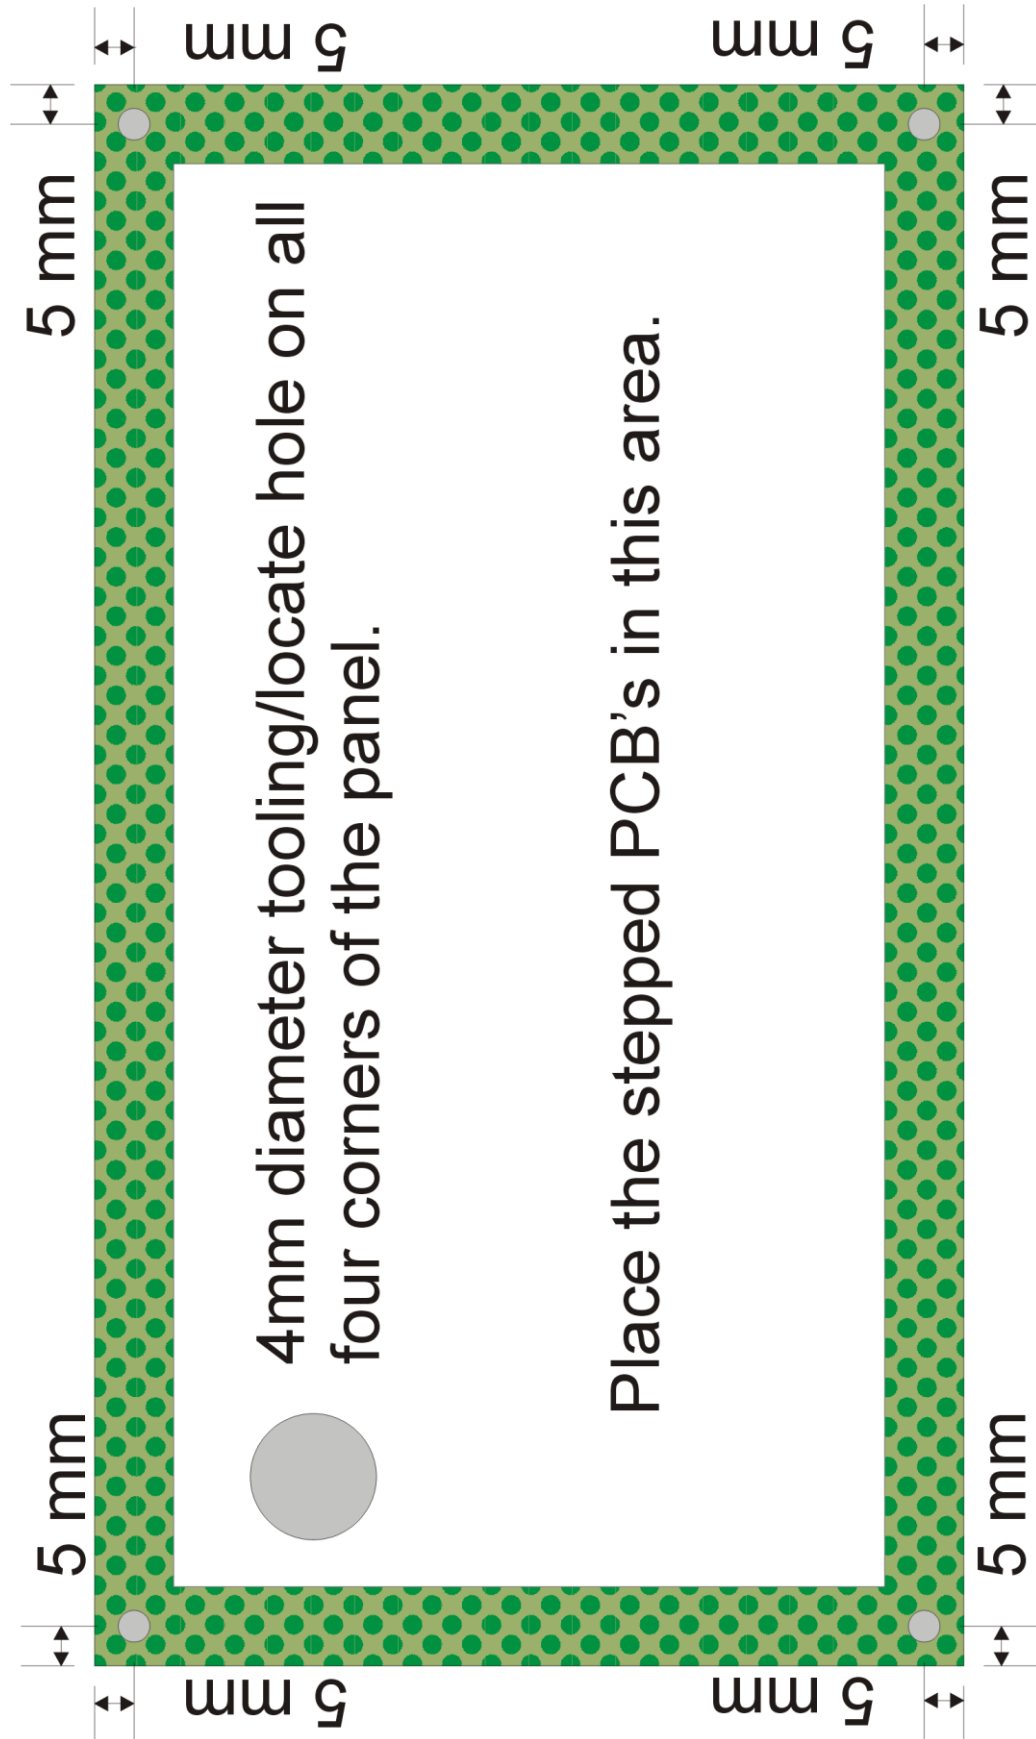

Fig 2. Preferred Panel Tooling Layout
- Tooling holes are required on all panels. 4mm diameter holes are to be positioned 5mm in from all four corners of the panel, in the handling border. See Fig 2 at the end of this document.